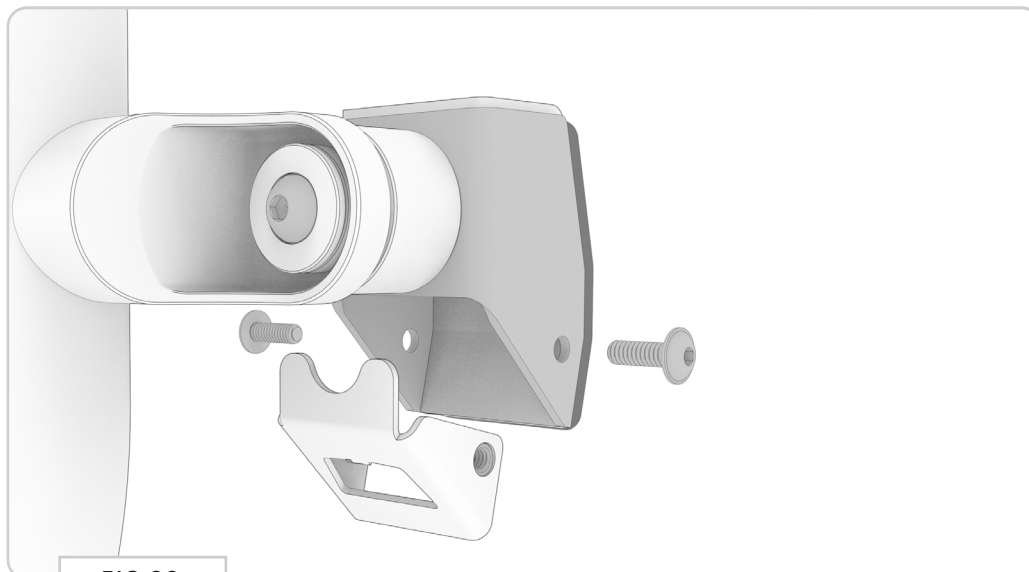

FIG 26
**6.1 Bottle Opener:** Attach the **Bottle Opener** to the **Third Mount Bracket** using (2) 1/4-20 x 0.75 Flanged Button Head Screws (FIG 26+27).